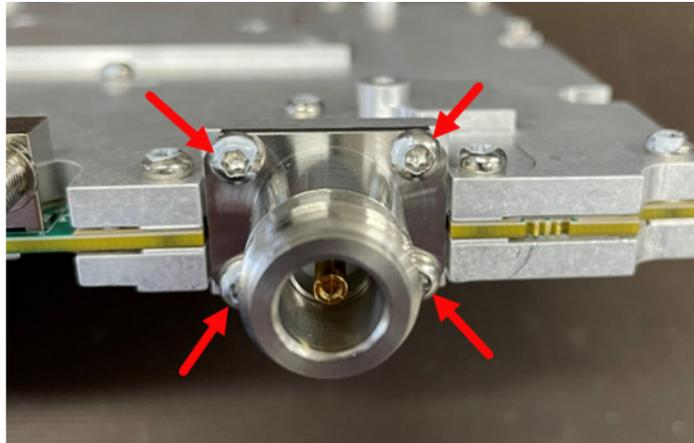

Figure 4-19. RF Input Adapter Removal
1. Using T10 Torx screw driver remove the four screws to carefully pull the RF input adapter straight off the SPA PCB assembly. See Figure 4-19.